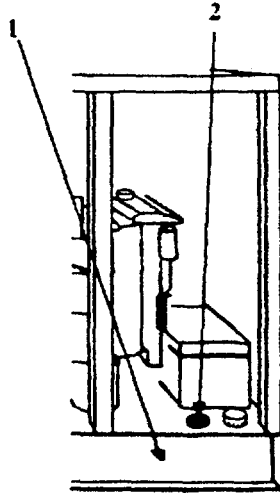

Figure 2-5. Fuel Tank.
2-5. FUEL TANK (Figure 2-5). The fuel tank (1) contains the diesel engine fuel and the fuel level gauge (2) indicates the amount in the tank.